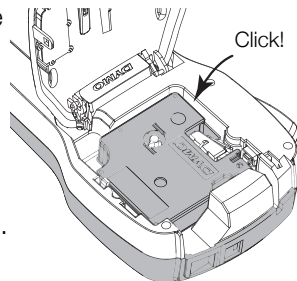

Figure 3
- 4 Press firmly until cassette clicks into place. See Figure 3.